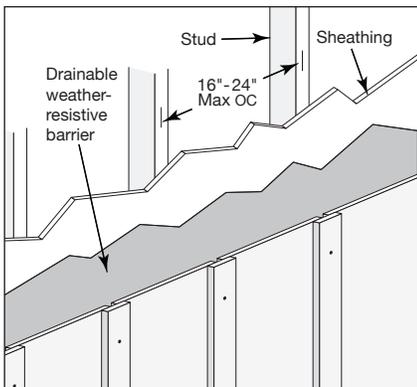

Fig. 27
- TruExterior Board and Batten Siding must be installed on frame-built walls with studs spaces 16 inches on center or at most, 24 inches on center (**Fig. 27**)
- Always install drainable-weather resistive barrier according to local building code requirement (**Fig. 27**)